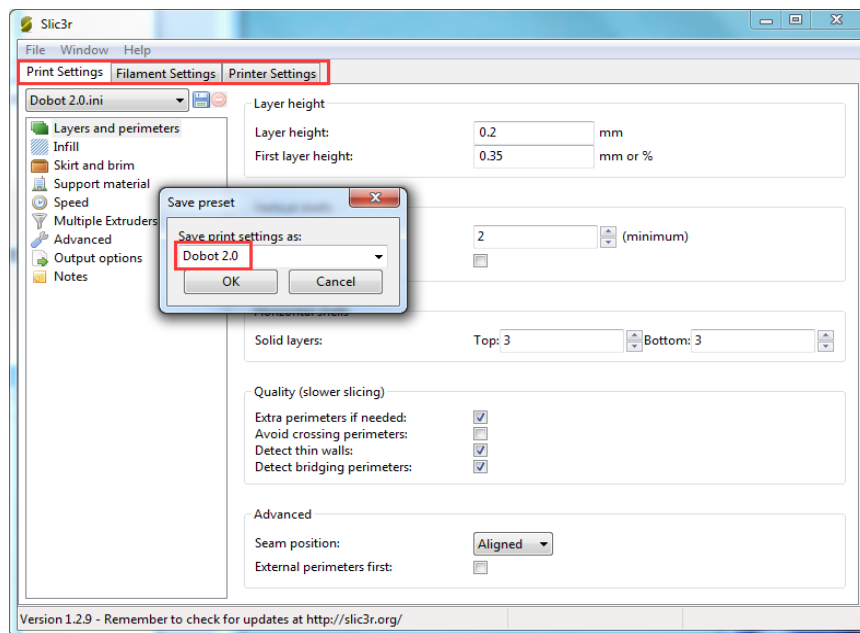

Figure 5.141 Save configuration file
3. Save the **Printing Settings**, **Filament Settings** and **Printer Settings** tabs respectively after importing configuration sample, as shown in Figure 5.141.